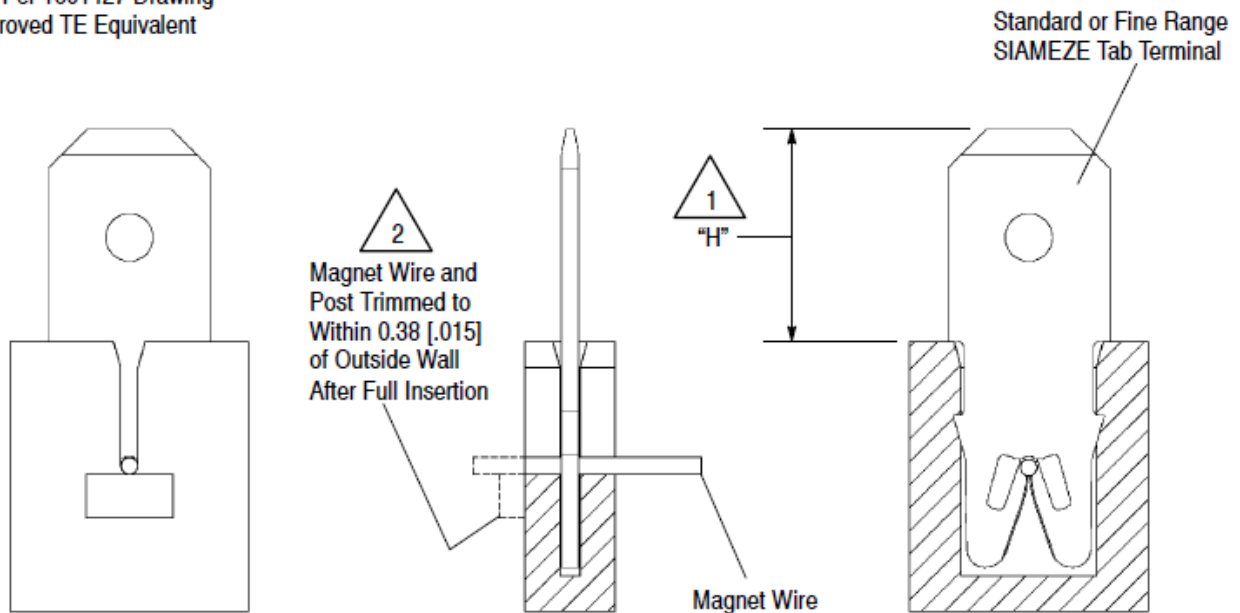

Figure 15
3.7. Terminal Insertion Depth (Figure 3 through Figure 15)